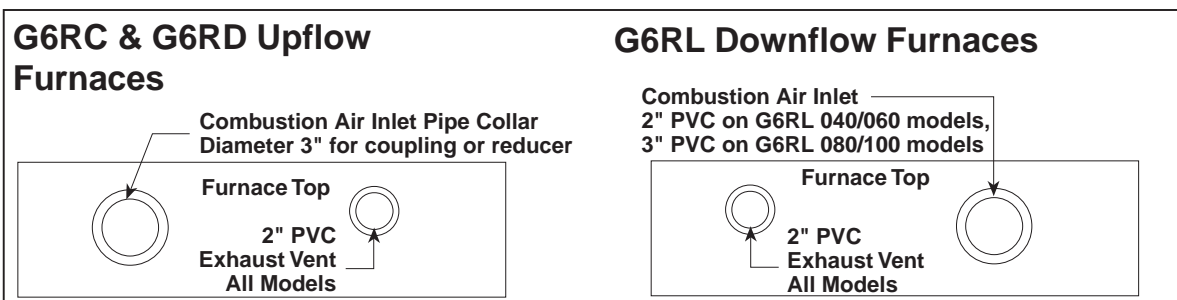

Figure 16. Furnace Pipe Adaptions
Figure 16 illustrates vent and combustion air pipe sizes exiting the furnace. Transition to the correct pipe size must be done close to the furnace so that the full length of pipe is of proper size.
Vent and combustion air intake terminations must be located to ensure proper furnace operation and to conform to applicable codes. Figure 16 illustrates necessary distances from the vent termination to windows and building air intakes. **In Canada, the Canadian Fuel Gas Code takes precedence over these instructions. Specifically, all minimum distance requirements with respect to termination of the vent piping listed below (items 1 through 8).**